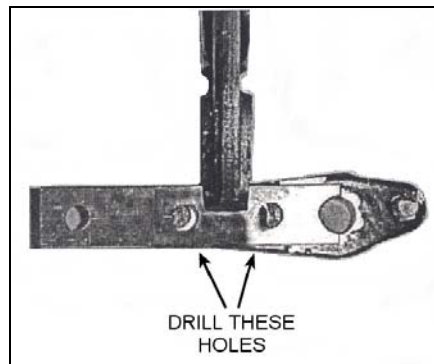

Figure 4. Clamp the Levers
2. Clamp the two levers together when aligned. The clamps must be tight enough to prevent any movement during the drilling process (**Figure 4**).
1. Bolt the two levers together using two 1/4-20 x 1" bolts, three 1/4" washers, and two 1/4-20 locknuts. The bolt heads must be on the same side of the lever as shown in **Figure 4** to prevent interference.